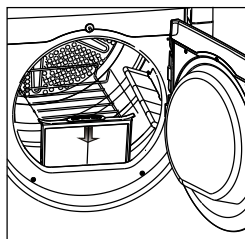

Fig.4
6. Insert the lint filter, must be inserted flush with the drum edge.(Fig.4)